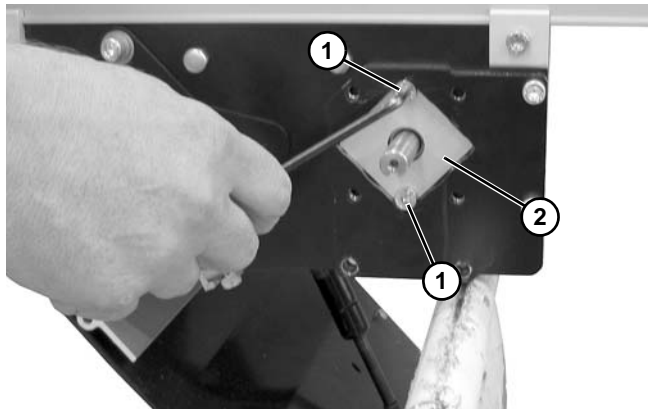

Figure 42
1. Remove screws (**Figure 42, item 1**) and remove spindle bearing block (**Figure 42, item 2**).